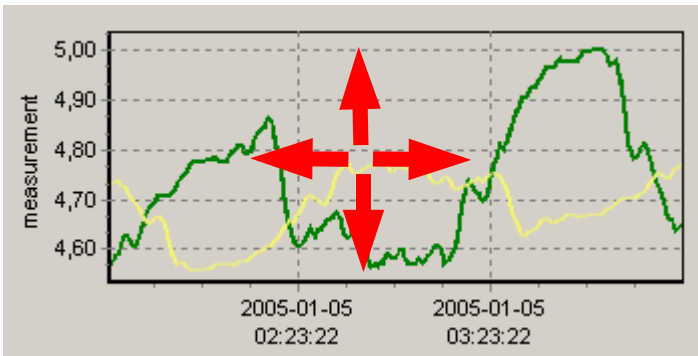

Fig. 3.8. Moving the graph
- **moving the graph** - the graph can be moved to the left/right (earlier/later time period, correspondingly). In order to do this, right-click on the graph and drag the pointer in desired direction (Fig. 3.8).